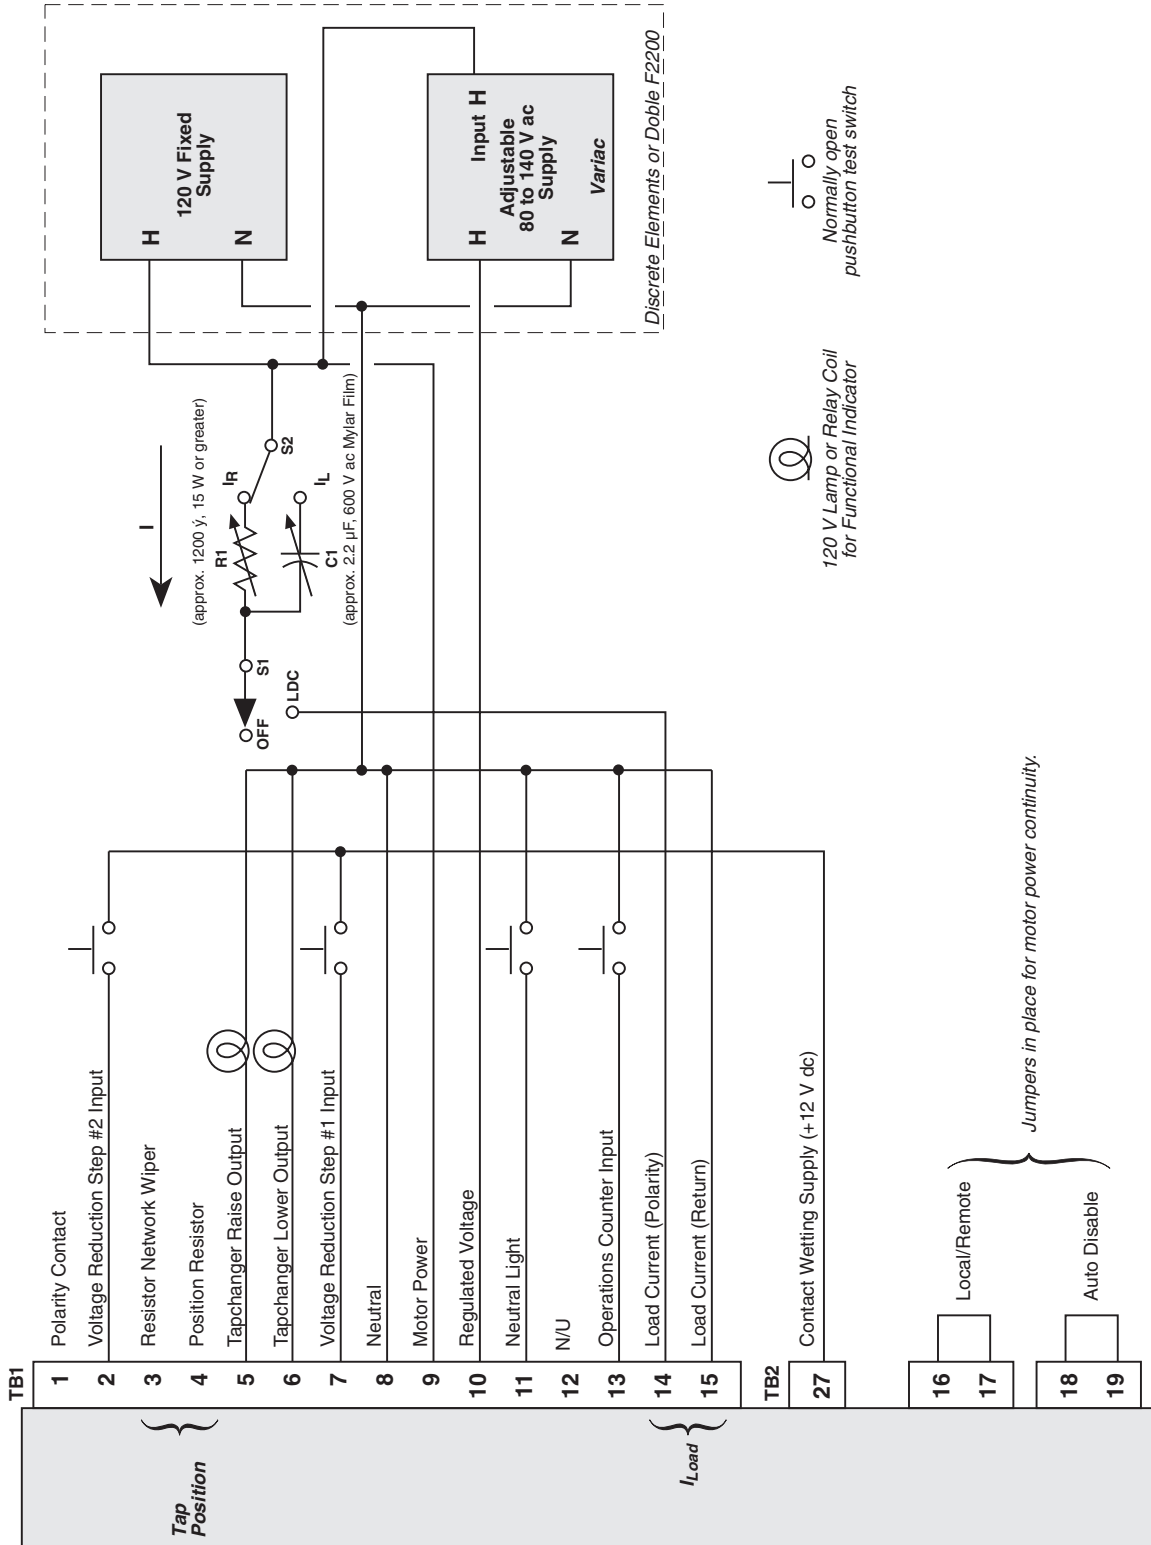

Figure 7 M-2299 Test Procedure External Connection
1. Make electrical connections as shown in Figure 7, Test Procedure External Connection.